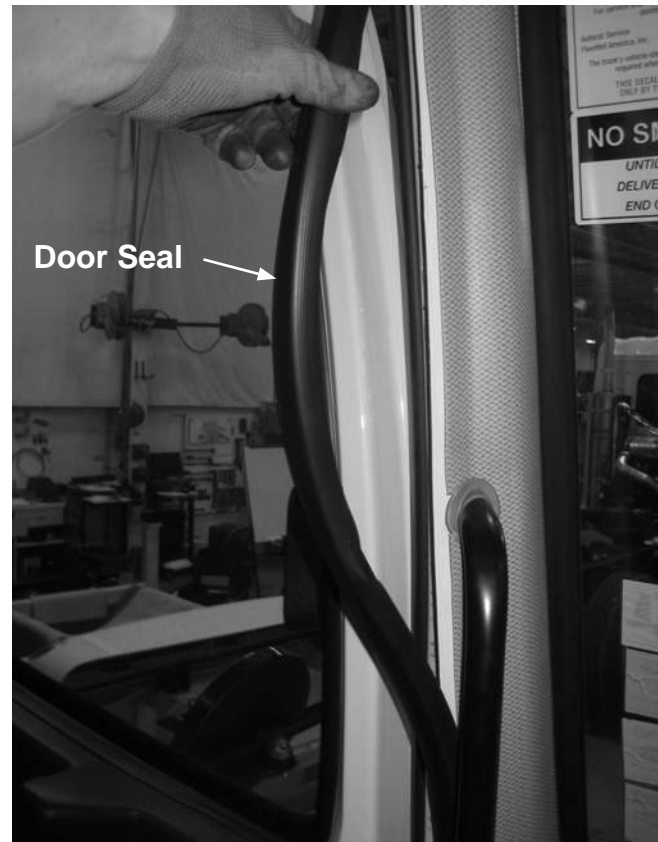

Figure 10-1
- In the area of the handle upper mount, separate the door seal from the trim panel (see Figure 10-1).